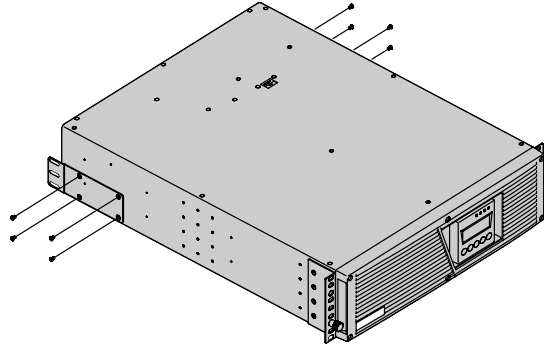

Figure 8. Installing the Rear Hold-Down Brackets
- 11. Optional.** Install the rear hold-down brackets (included with the rail kit) if you need to move the rack enclosure with the UPS already rack-mounted inside (see Figure 8).